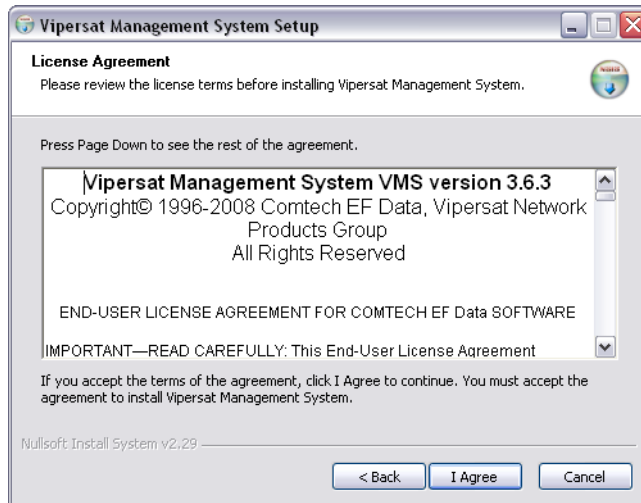

Figure 2-13 License Agreement screen
3. On the **License Agreement** screen, shown in figure 2-13, click the **I Agree** button to proceed.